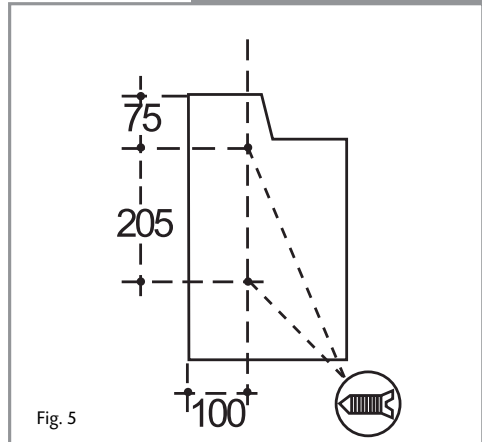

Fig. 5
6. Secure the extractor to the adjacent units through the holes in the side of the appliance (Fig.5), to ensure that it cannot be accidentally knocked off the hanging brackets.